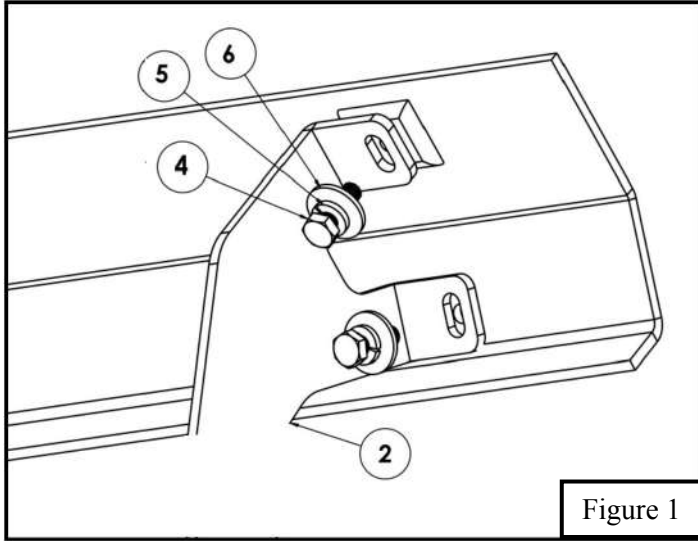

Figure 1
2. Start installation on either side of the vehicle. Locate mounting locations with factory threaded holes with caps covering them. Remove factory caps from threaded holes, they will not be used again. Locate (1) Front Mounting Bracket and loosely install it to the front mounting location on the rocker panel using (2) Long M8 hex head cap screw, (2) M8 split lock washer, and (2) M8 flat washer (Items 4-6). Locate the Mounting Bracket B (Item 3) and loosely secure in the correct mounting locations on the rocker panel. Loosely install using the provided M8 hardware (Items 5-7). See **Figure. 1 and 2.**